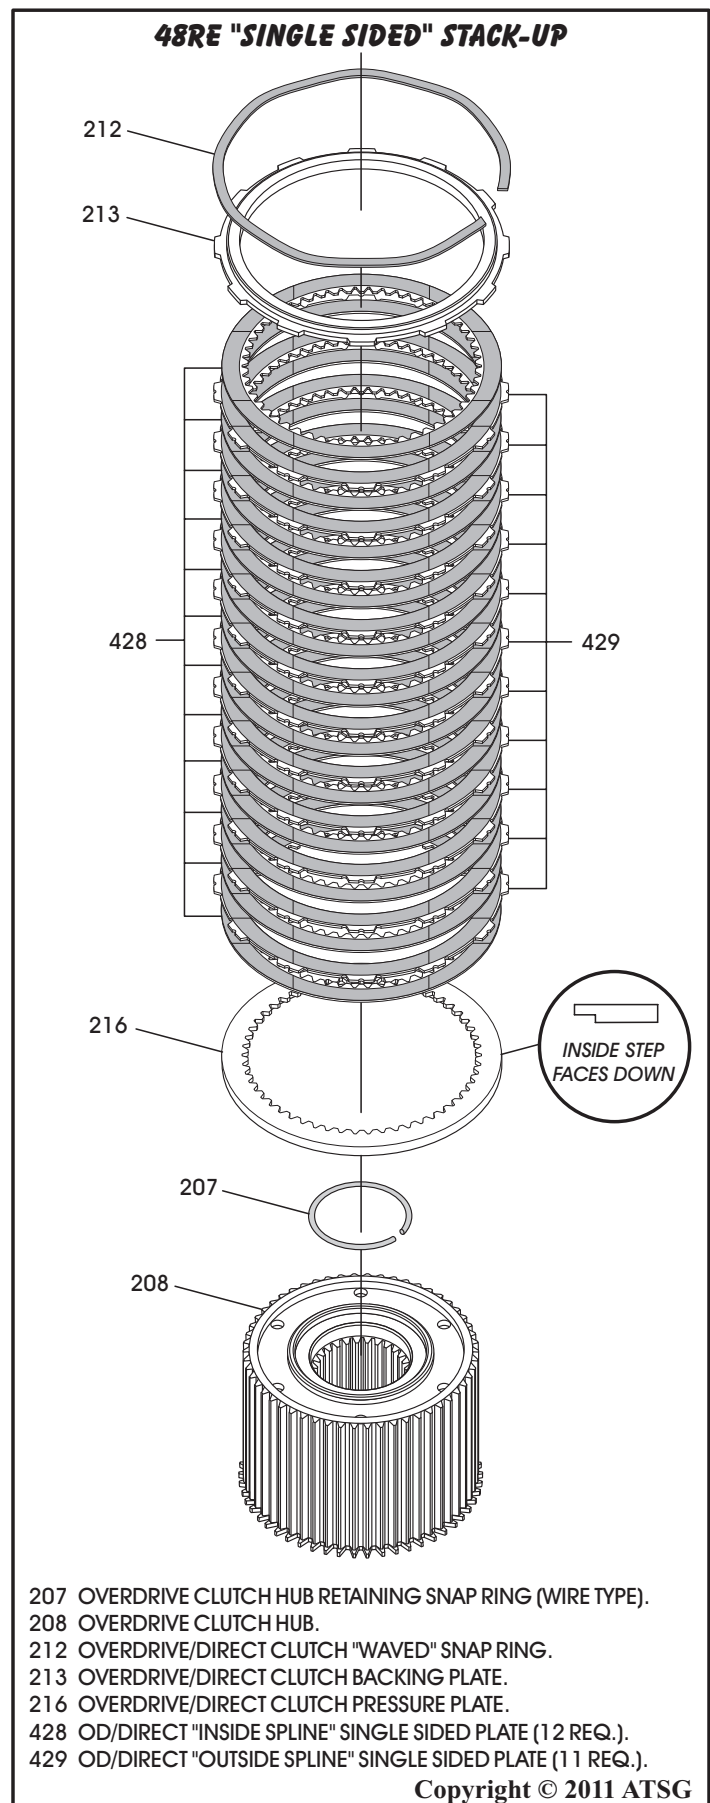

Figure 182
The 48RE was introduced in 2003 and Chrysler engineering decided on "Single-Sided" clutch plate stack-up for the Overdrive Direct clutch pack, as shown in Figure 182. The "Single-Sided" stack-up uses 12 inside-spline plates and 11 outside-spline plates. The "Single-Sided" clutch pack provides some increased torque capacity but is more expensive.
25. **Single-Sided Plates:** Begin with an inside-spline and alternate with outside-spline plates until you have installed 12 of the inside-spline plates and 11 of the outside-spline plates, as shown in Figure 182.